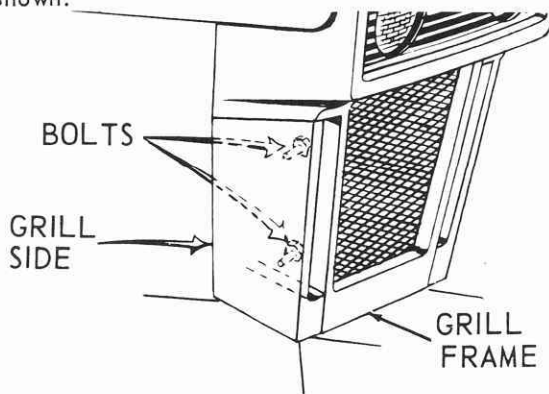
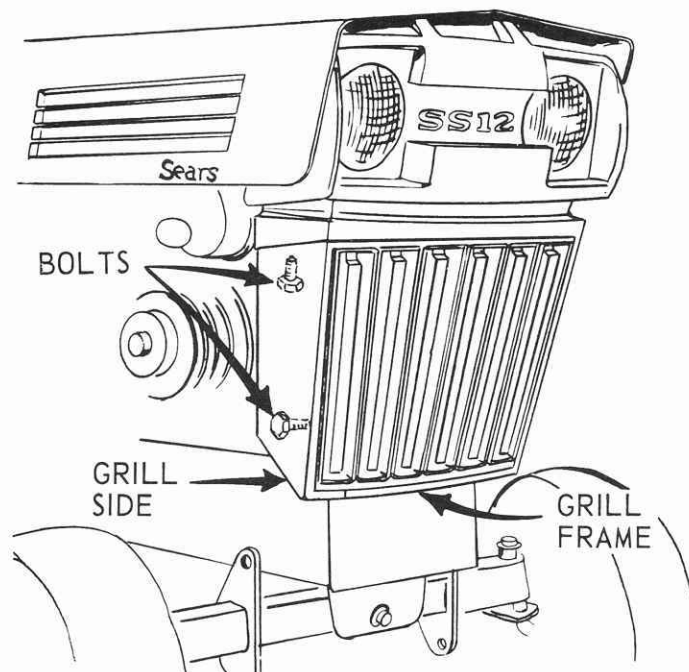

FIG. 3
FIG. 4
7. Refer to Fig. 3 and Fig. 4 for drawing of grill bolts that match your tractor. Remove the two bolts holding grill side to R.H. side of grill frame, and remove grill side.